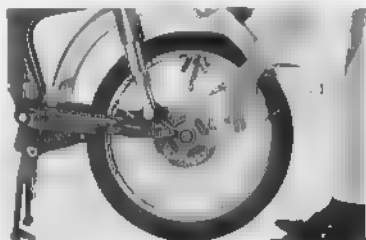

Fig. 4.95 Removing rear wheel
6. Remove the rear wheel. (Fig. 4.95)